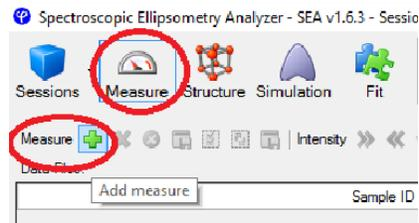

Figure. 9
15. Go to “Measure” tab and load the saved .smdx file (Figure. 9)